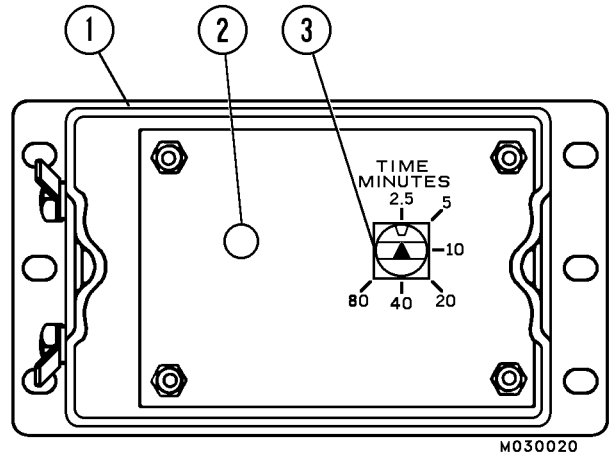

FIGURE 42-8. TIMER
2. Adjust timer selector (3, Figure 42-8) to 5 minute interval setting.
The timer is factory set for a nominal 2.5 minute (off time) interval. Dwell time is approximately 1 minute, 15 seconds. A longer interval (off time) is obtained by turning selector knob (3, Figure 42-8) to the desired position.